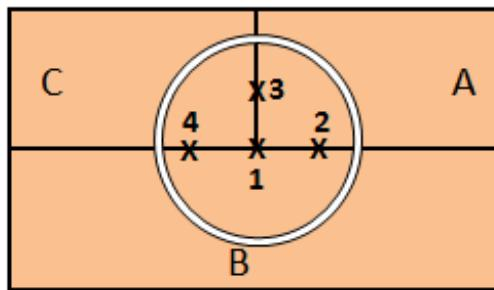

Figure 6 Assembled Laminate Planks with Plastic Ring seal
- 8) Place the 4” (100 mm) ring over the inverted “T” joint as shown in Figure 6 with the sealant side down. Press down firmly and wiggle the ring slightly (without shifting its position) to help seal it to the surface of the Laminate planks. On both inside and outside of the ring, **make sure to take extra care when sealing the ring to the laminate surface, especially at the joint location points. Make sure assembled pieces are flat and joints fully engaged.**